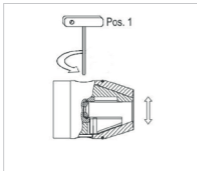

Figure 9: Maximum clamping range
1. With the aid of the hex-wrench supplied, turn the pinion to the largest possible clamping range by turning it counter-clockwise (see "Figure 9: Maximum clamping range").